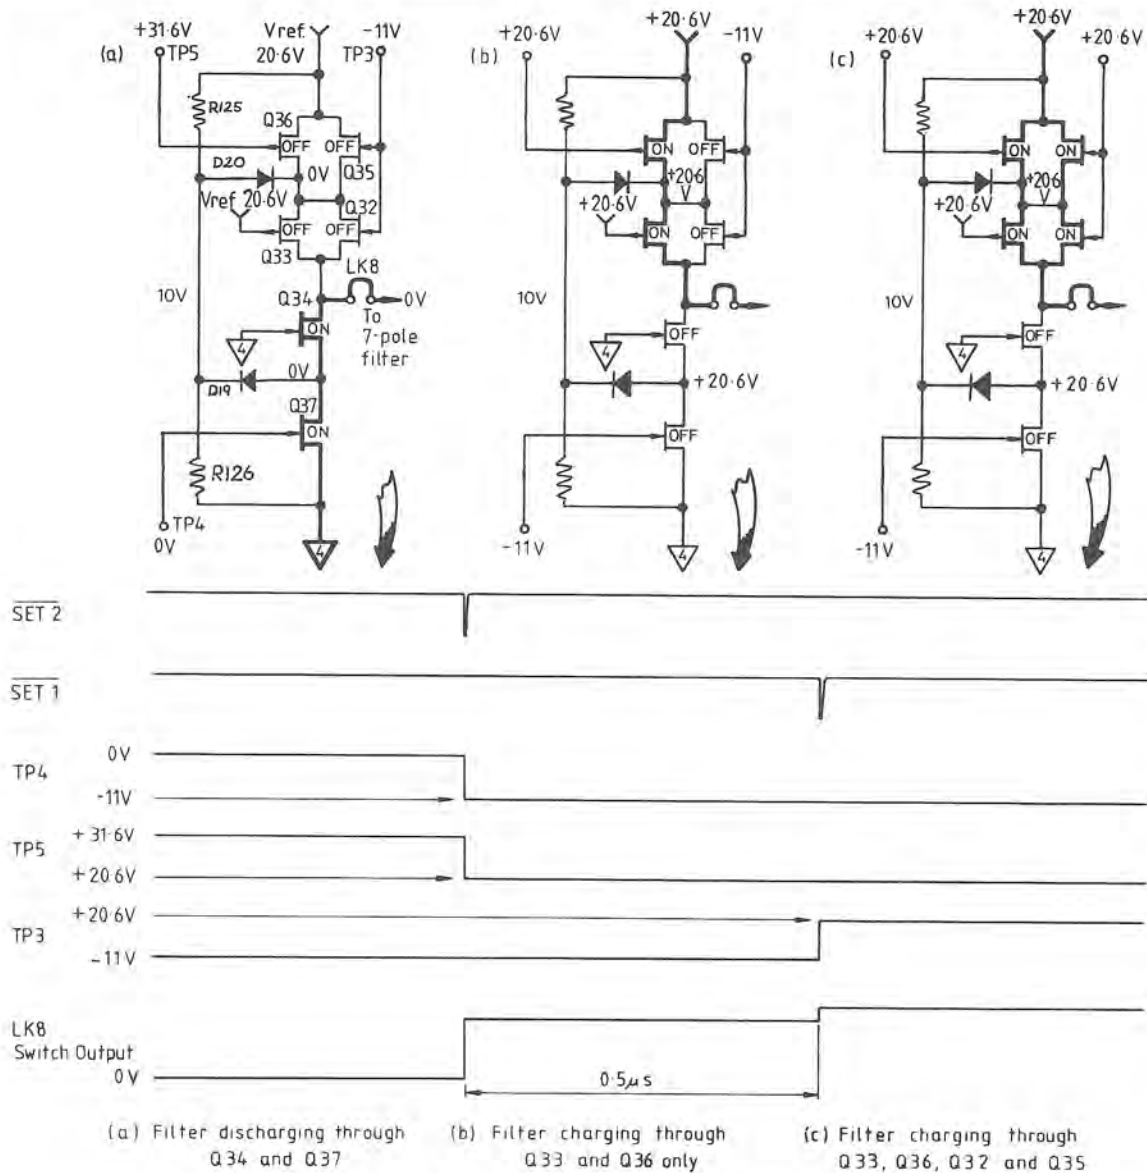

FIG. 4.6.10 ACTION OF MAIN AND GUARD SWITCHES (MSD)
4.6.8 Main And Guard Switches (Fig. 4.6.10)
Refer to Fig. 4.6.10, in which only the Space to Mark (SET) state transfer a-b-c is shown.
4.6.8.1 Switch Timing (Fig. 4.6.10)
In Fig. 4.6.10(a) the switches are in "space" state:
Fig. 4.5.10(b) shows this intermediate state after SET 2 and before SET 1, and Fig. 4.6.10(c) shows the fully-conducting state after SET 1. Note that for descriptive purposes, the second step on LKB waveform is heavily exaggerated, and is not readily viewed on an oscilloscope. The slightly longer charging time-constant during this half micro-second, due to the higher resistance of Q36/Q33, is not sufficient to disturb the linearity of the filter in excess of specification.